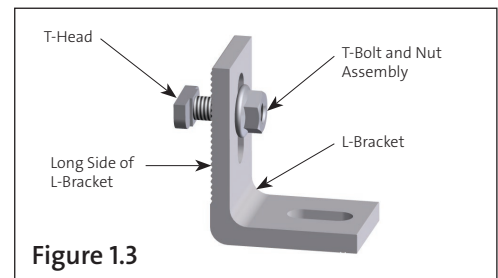

Figure 1.3
- 1.3. Pre-assemble T-Bolt and Nut Assembly ③ on the long side of the L-Bracket ⑤ with the T-head on the outside as shown in **Figure 1.3**. Preassemble loosely, with anti-seize compound on threads.